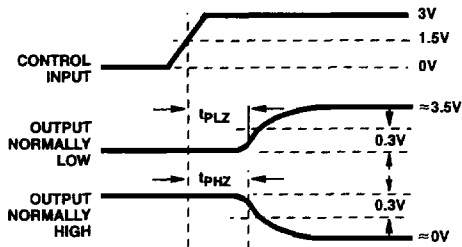

FIGURE 2. OUTPUT DISABLE TIMES
**Switching Specifications**  $t_r, t_f = 2.5\text{ns}$ ,  $C_L = 50\text{pF}$ ,  $R_L$  - See Figure 2